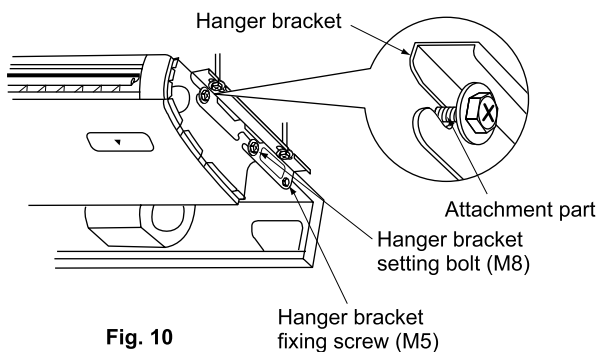

Fig. 10
- (2) Lift the indoor unit's main body, insert the bolt (M8) for the hook into the attachment part on the hook, while sliding the main body from the front. (Refer to Fig. 10)
- (3) Fasten the bolts for the hooks (M8) securely in the four locations, left and right. (Refer to Fig. 10)
- (4) Replace the screws for the hooks which had been removed (M5) securely in 2 places left and right. This is necessary to prevent any forward and back deviance in the main body of the indoor unit. (Refer to Fig. 10)